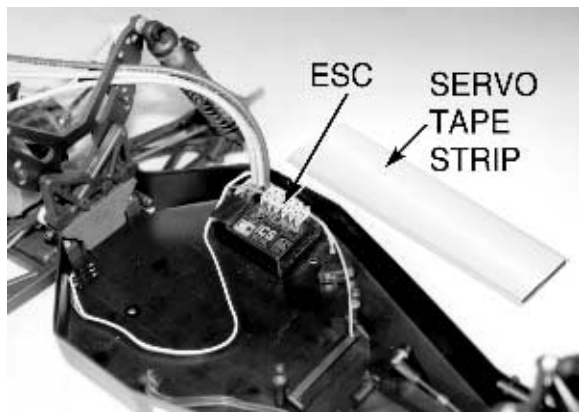

Fig. 178
□ **Fig. 178 FOR BALL BEARING KITS** we are now going to install the electronic speed control. If you have not decided on a speed control yet, we recommend using a name brand like LRP, Novak, or Tekin. We consider this to be the top brands from Europe and the U.S. As long as you stay with a quality brand you should have no problems. **NOTE: Bushing kit owners will need to follow this step if you ever decide to upgrade to an electronic speed control.**
We are going to install the radio receiver on the right side of the chassis. Near the back of the chassis on the right side you will find one hole which is counter sunk on the bottom of the chassis. This is our recommended antenna mounting location. Mount your receiver forward of this location. You need to make sure that the servo plug from the steering servo, throttle servo (or ESC) can easily reach the receiver. We also want the antenna wire to have a clear run to the mounting location for the antenna mount. Take out one of the double stick tape strips (also know as servo tape) from the kit bag. Ball bearing kit owners will have already done this in fig. 178. Cut a piece to fit on the bottom of the receiver case.